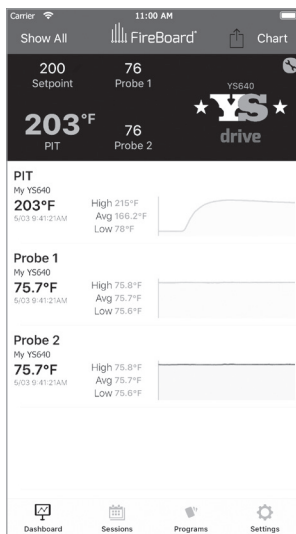

FIG 31
- You can choose between two visualizations of the running temperature data: a basic chart, and a detailed chart. You can toggle between the two by tapping on the word “Chart” or “Detail,” respectively, in the title bar area of the app (**FIG 31, 32**).